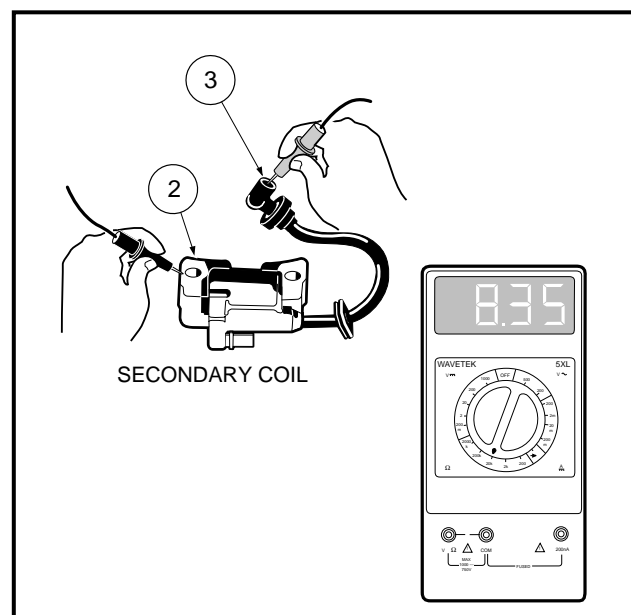

Figure 11-42 Test Ignition Secondary Coil
- 3.2. If the resistance is not between 6.0k - 11.0k Ω (ohms), remove the coil from the engine. **See Ignition Coil Removal, Section 12, Page 12-25**. Retest with a multimeter set to 20k Ω (ohms). Place the black (–) probe of the meter on the core (2), and place the red (+) probe into the end of the spark plug wire (3) (**Figure 11-42, Page 11-35**). If the resistance is not between 6.0k - 11.0k Ω (ohms), replace the coil.